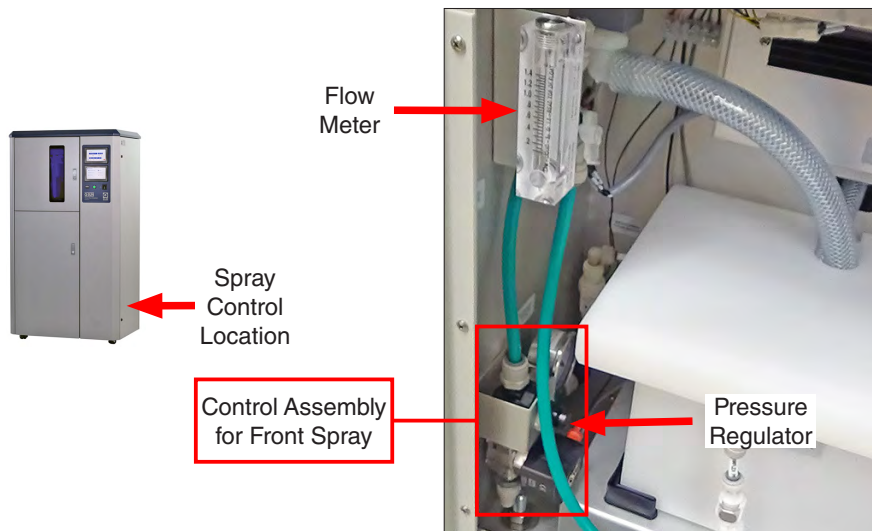

Figure 10.1c: Xe-2 right side door open to show front spray control.
- A spray control assembly (Figure 10.1c) includes a pressure regulator that controls the flow of water to the nozzle.